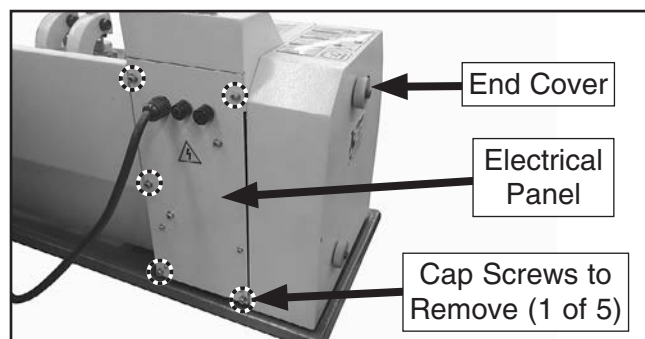

Figure 137. Location of parts for removing panel.
2. Remove end cover and electrical panel (see **Figure 137**).